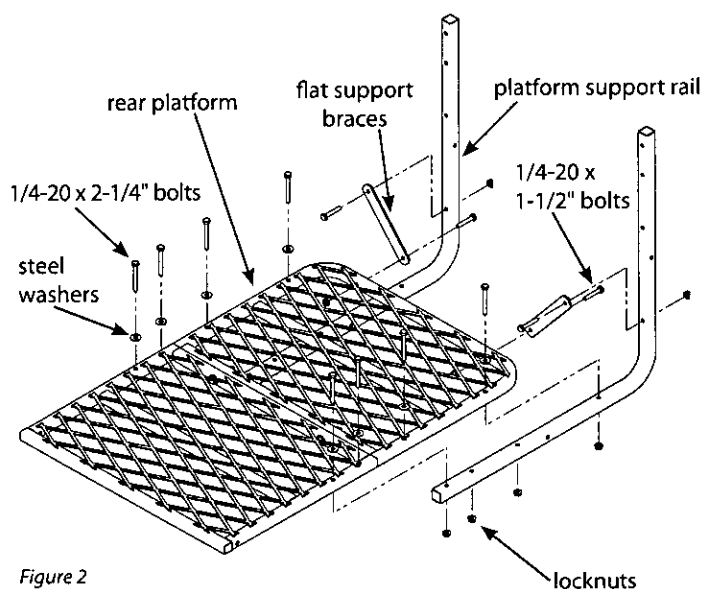

Figure 2
2. Attach the platform support rails (410055) to the bottom of assembled foot platforms using (8) provided 1/4-20 x 2-1/4" bolts, locknuts and steel washers. **SEE FIGURE 2.**
3. Attach the platform flat support braces (1ML40) to the rear platform and platform support rails using (4) provided 1/4-20 x 1-1/2" bolts and locknuts. **SEE FIGURE 2.**